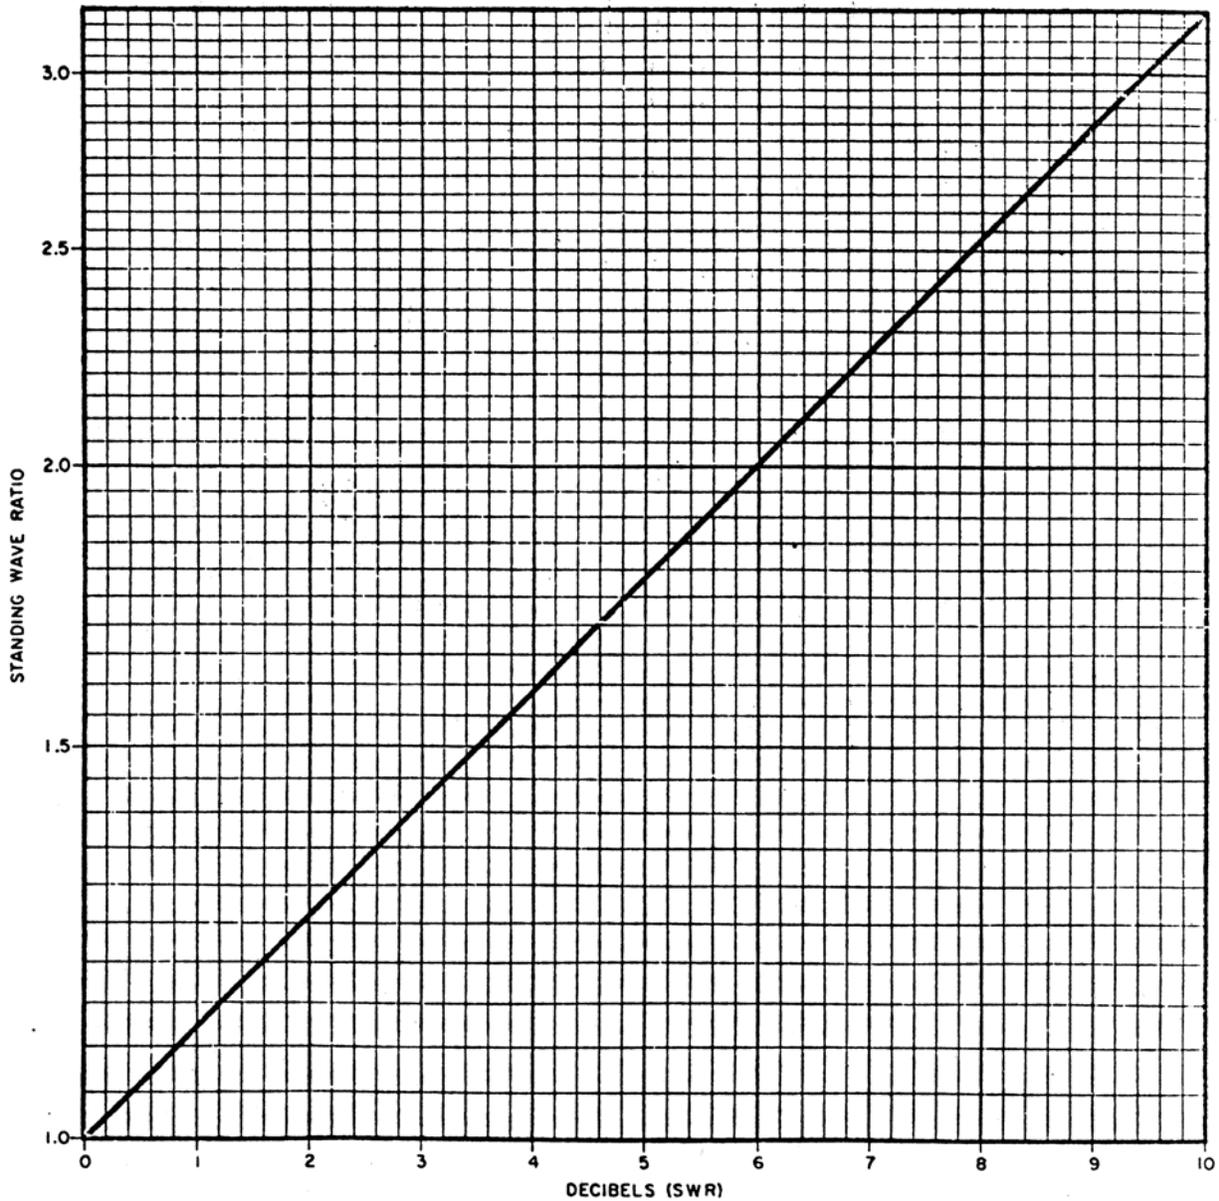

Figure 4
The VSWR meter may be used to measure a standing wave ratio as a direct reading or as a decibel reading to be converted to SWR. Normally the measurement of SWR will lie in a range from 1:1 to 10:1 (low). However, measurements greater than 10:1 (high) may be made. The expand Switch of the VSWR meter allows full scale presentation of any 2.5 db segment of the 10 db steps. Figures 4 and 5 permit conversion of db to SWR.
- j- If the indicated SWR is between 1 and 3.2, greater accuracy in a reading is possible if the EXPAND function is used. For a SWR between 1 and 1.3, a SWR scale is provided for a direct reading when the EXPAND switch is changed to the 0.0 position. If the SWR is between 1.3 and 3.2, the EXPAND db scale may be used to obtain an accurate db reading for conversion to SWR using Figure 4. For SWR between 3.2 and 10, a scale on the meter provides the reading. Refer to Figure 6 and obtain the SWR reading as follows:
- 2- If needle is between 1.3 and 3.2 after step j, note the reading on the 0 to 10 DB scale and change EXPAND switch to a position which normalizes the beginning of the proper 2.5 db segment. For example, if the reading is approximately 8.4 db, then change EXPAND switch to 7.5. The reading is then the sum of the needle indication on the 0 to 2.5 DB scale and the EXPAND switch setting (for example, $0.95 + 7.5 = 8.45$ db). Locate this db reading on Figure 4 and note the corresponding SWR value (8.45 db is read as SWR of 2.66).